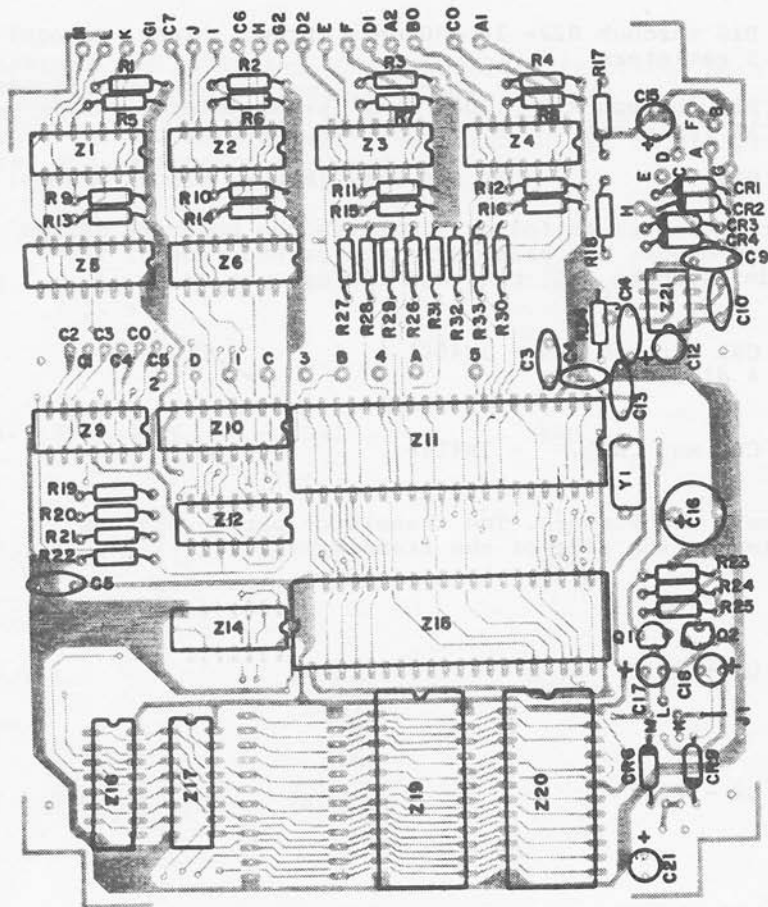

Figure 3
Assemble the main P.C.B. assembly in the order of the steps given. After each component has been installed and soldered in place, cut off excess wire leads from the solder side. Refer to Figure 3 during this assembly.
Install the IC sockets. Note that one end of each socket has a notch. Orient the notch as shown in Figure 3.
Install the following IC's and solder in place. Note the orientation of each IC. There is a dot on the top of the IC next to Pin 1. Some IC's have a notch on this end. Install each IC with the notch or dot on the proper end. Reference Figure 3.
Install the electrolytic capacitors. These capacitors are polarized and are marked showing the negative lead wire. The other lead (opposite the - lead) is positive + and belongs on the pad labeled + in Figure 3. Observe this polarity when installing. After soldering, cut off the excess lead wires on the solder side of the P.C.B.
[✓] Install and solder a short piece of wire for jumper J1 near the 1N4148 diodes. Reference Figure 3.
[✓] Install and solder crystal Y1 in place. Reference Figure 3.
[✓] Insert and solder the six(6) 3" white stranded wires from the display P.C.B. sub-assembly into the six(6) holes (C1 through C5) on the main P.C.B. assembly. C1 through C5 are shown in Figure 3.
- [✓] Install and solder the three(3) wires from the 7805 regulator sub-assembly in the main P.C.B. assembly next to the 1N4001 diodes. Refer to Table 1 and Figure 3 to determine which color wire goes into which pad.
- [✓] Install and solder the three(3) wires from the 7812 regulator sub-assembly in the main P.C.B. assembly next to the two(2) transistors. Refer to Table 1 and Figure 3 to determine which color wire goes into which pad.
- [✓] Install and solder four(4) wires from the slide switch sub-assembly in the main P.C.B. assembly near the 1N4001 diodes. Refer to Table 1 and Figure 3 to determine which color wire goes into which pad.
Install the following IC's into their sockets. Note that there is a dot or notch at one end of each IC. Install each IC with the notch or dot on the proper end. Reference Figure 3.